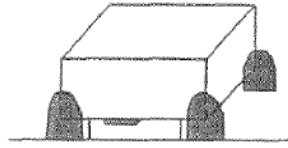

Figure 6. Schematic diagram of epoxy adhesive reinforcement products and carriers
- Epoxy adhesive reinforcement (such as DG-4, mainly for large and heavy products such as dual in-line packages) is used. The reinforcement method is to apply epoxy adhesive between the four corners of the product and the carrier (the height of the epoxy adhesive should exceed 25% of the product height). The reinforcement positions are shown in Figure 6.